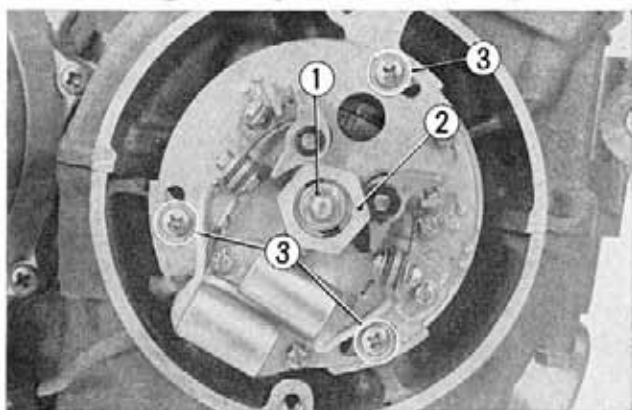

Fig. 3-71 ① 6mm hex. nut
6. Remove the point cover and unscrew the 6 mm hex nut and remove the advancer shaft special washer. (Fig. 3-71)
7. Unscrew the three contact breaker assembly mounting screws and remove the contact breaker (Fig. 3-71).